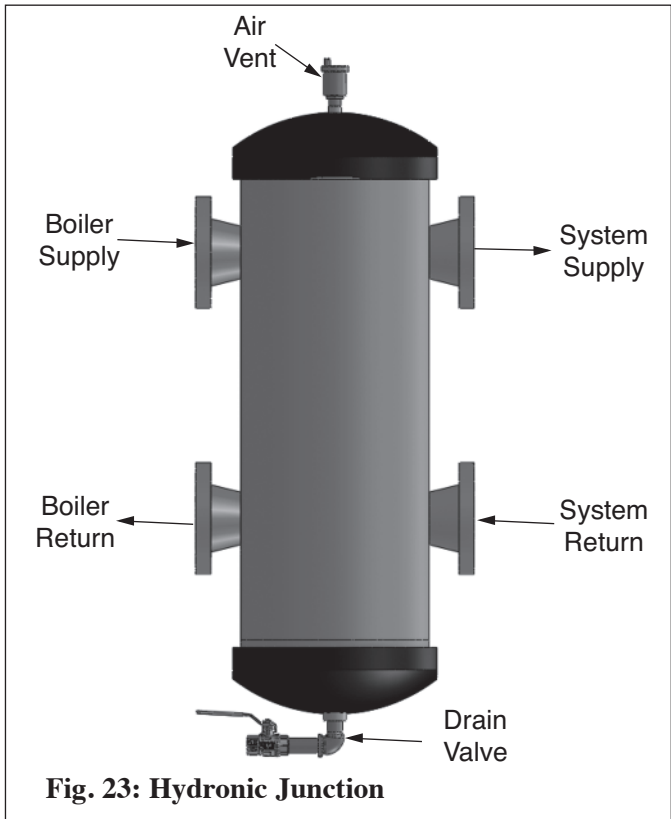

Fig. 23: Hydronic Junction
4. Install air vent and drain valve in the Hydronic Junction, see Figure 23. The air vent should be installed in the top tapping as shown. The drain valve (1-1/4" NPT shut off valve) should be installed horizontally using a 1- 1/4" NPT 90° elbow and 1-1/4" NPT x 4" nipple in the tapping located at the bottom. The handle on the shut off valve will need to be in the horizontal position when the valve is closed. Remove handle and install accordingly.
Position and secure insulation to hydronic junction as shown in Fig. 23.